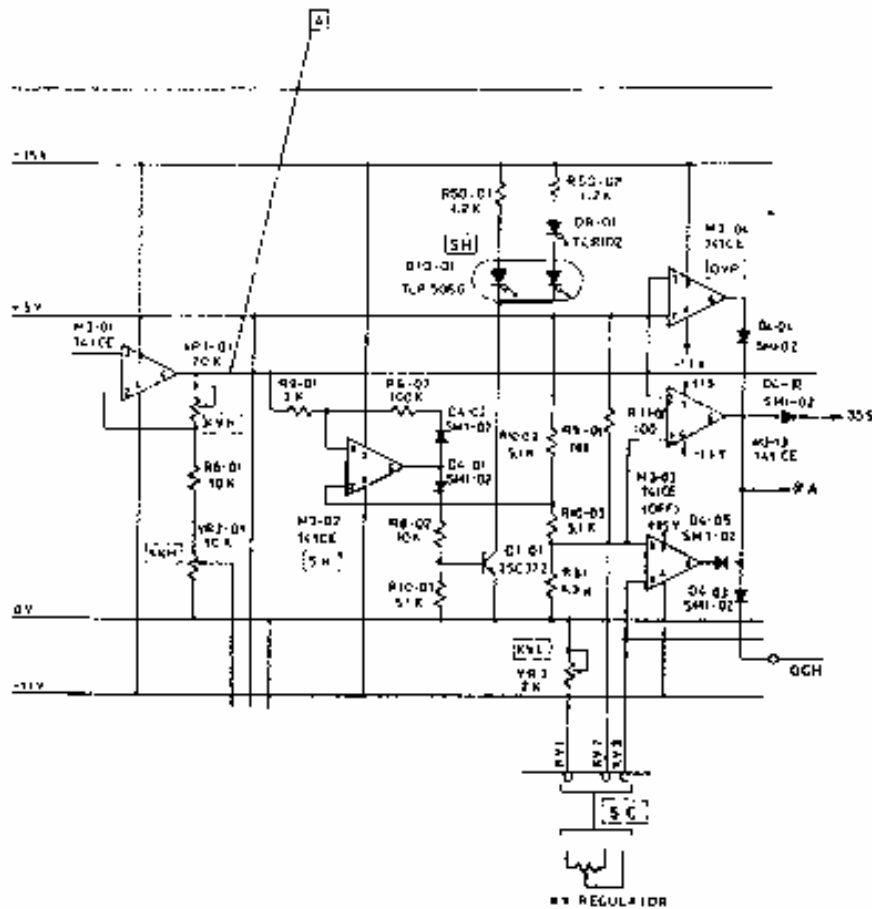

Fig. 3-3-3
- (1) Figure 3-3-3 is the connection diagram of this circuit.